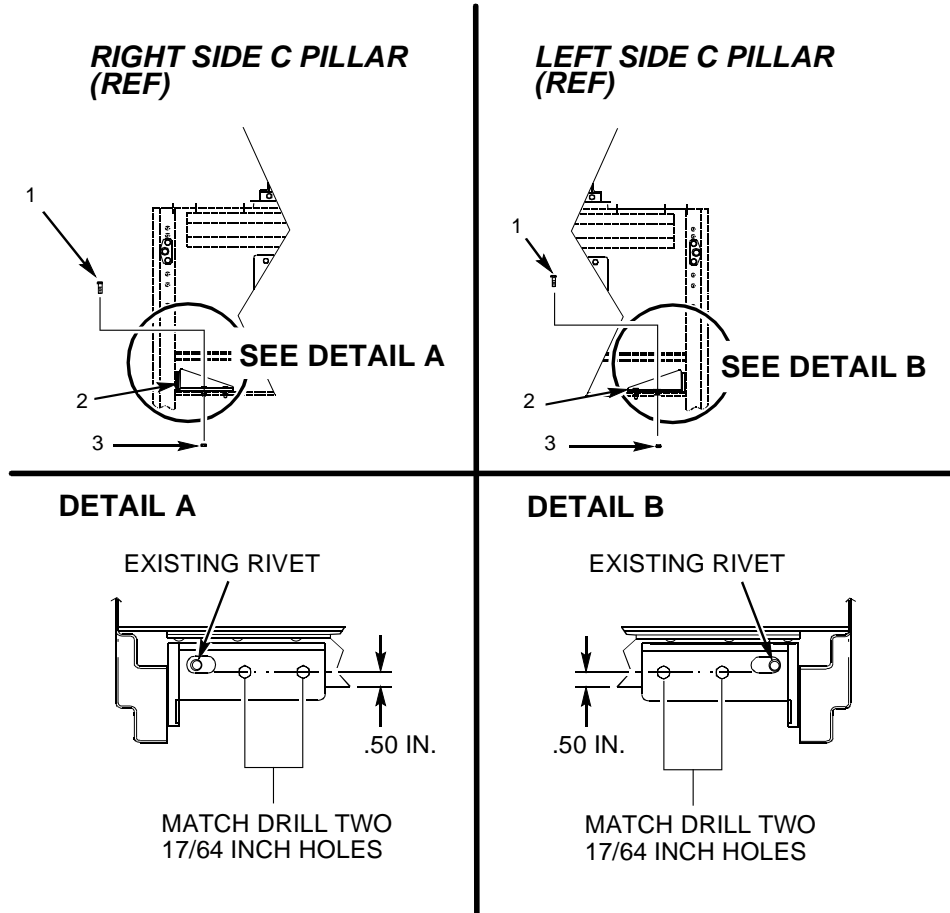

Figure 1-10. Rear Door Ramp Block Installation (4 Door Only)
- 1) Install left and right rear door ramp blocks (see figure 1-10).
- a. Position rear door ramp block (2) onto C-beam centering about existing rivet and pushed against rocker.
- b. Match drill two 17/64-inch holes per figure 1-10.
- c. Apply Sealing compound to two capscrews (1).
- d. Install rear door ramp block (2) with two capscrews (1) and locknuts (3).
- e. Torque capscrews (1) to 10 lb ft (14 N•m).